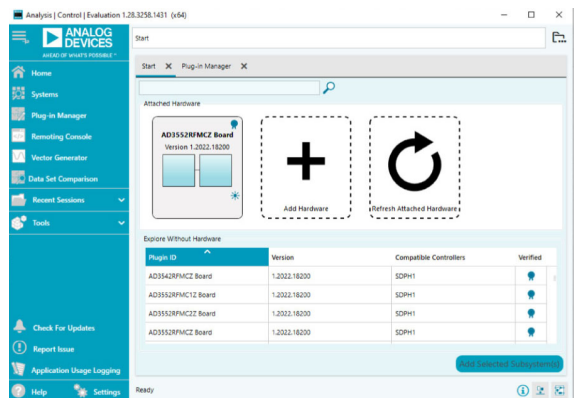

Figure 4. Start Tab
4. Click the **Home** item on the left-hand menu. If the EVAL-AD3552RFMCZ board is connected, it will show up in the **Attached Hardware** section as shown in Figure 4. If you do not have an EVAL-AD3552RFMCZ board, you can still explore the functionality of the plugin by double clicking the desired board in the **Explore Without Hardware** list.
5. Start up the ACE application. The EVAL-AD3552RFMCZ board is detected and displayed in the **Attached Hardware** section, as shown in Figure 4. Double click the board icon to open the board view, as seen in Figure 9. The board view shows the relevant parts included in the evaluation board, where the AD3552R chip is highlighted in a darker blue.